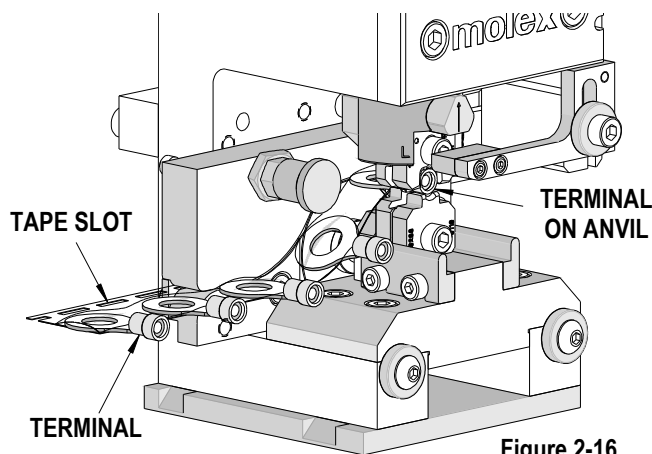

Figure 2-16
5. Load the taped terminal strip from the front of the module, engaging the slots in the tape with the teeth on the feed wheel. Make sure the terminal is also centered above the crimp anvils. See Figure 2-16.